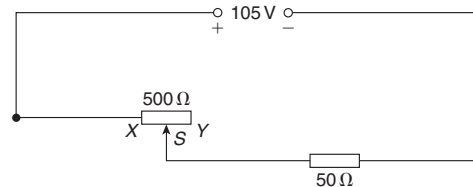

Figure RT2.3
- Is the circuit a potentiometer or a rheostat? (5)
- For the circuit shown in Fig. RT2.3, calculate the current flowing in the 50Ω load and the voltage drop across the load when
- point S coincides with point Y . (5)